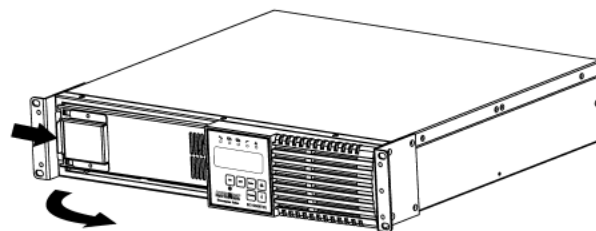

FIG. 2
7. Press the spring-loaded latch on the battery retaining bracket on the left-hand side, pull it outward and then set it aside (FIG. 2)